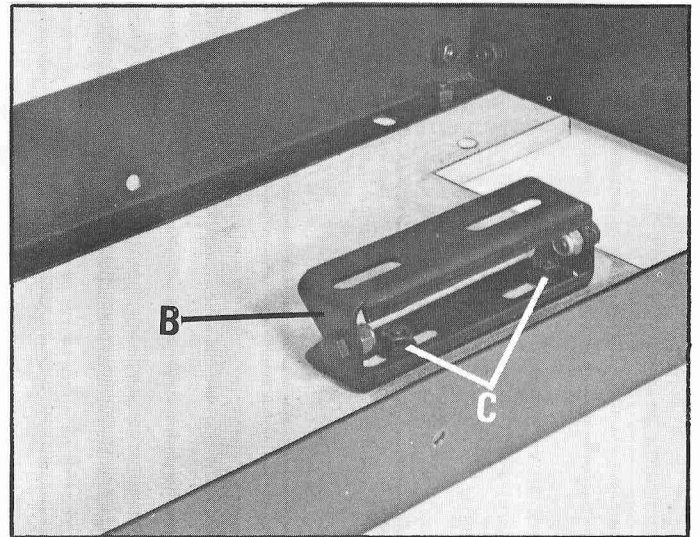

Fig. 5
3. Place the motor mounting hinge bracket (B) Fig. 5, on the two carriage bolts which were inserted in STEP 2. Fasten, as shown in Fig. 5, using two 5/16" flat washers and two 5/16"-18 hex nuts (C).